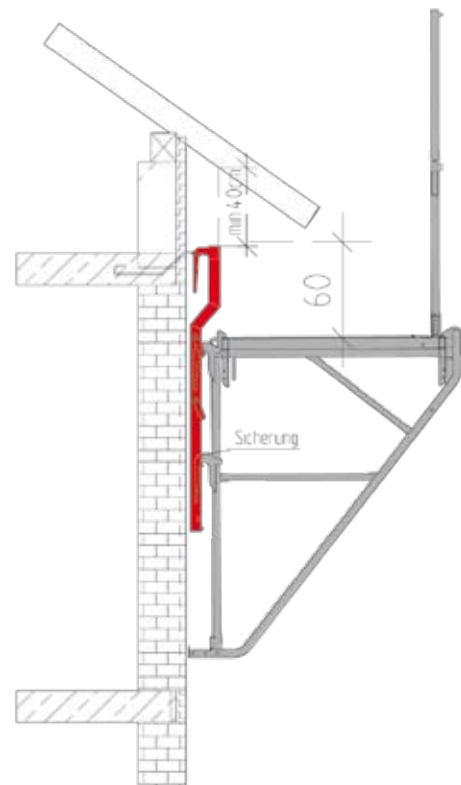

Fig. 26.2
■ When using the compensation platform LAB 130/240 as safety scaffold below the roof and flying it, keep in mind that the compensation platform must be lifted over the railing of the working platform LAB 130/340 or 130/240. This is why planning must take into consideration the final form and size of the eaves (Fig. 26.2).